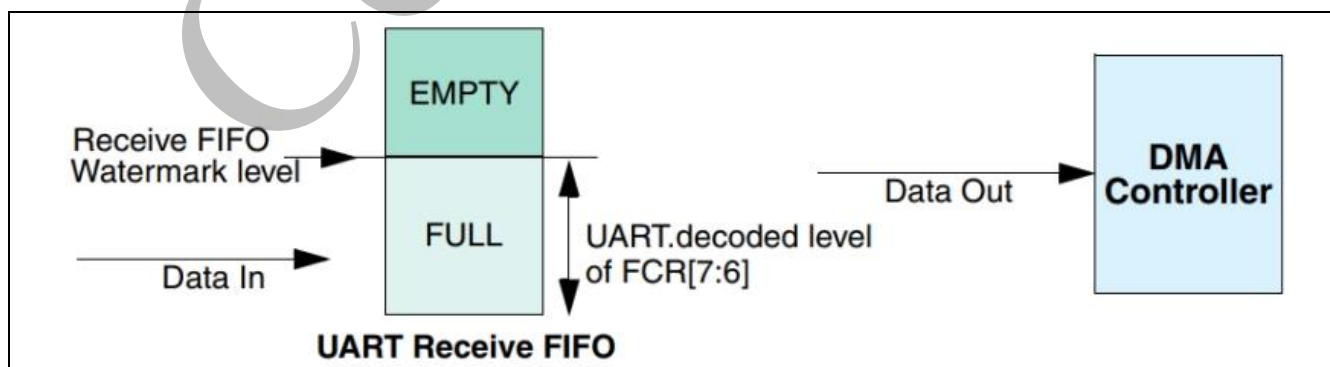

Figure 3-115 UART Receive FIFO
As can be seen in Figure 3-115, programming a source burst transaction length greater than the watermark level can cause underflow when there is not enough data to service the source burst request. Therefore, equation (3) below must be adhered to in order to avoid underflow.